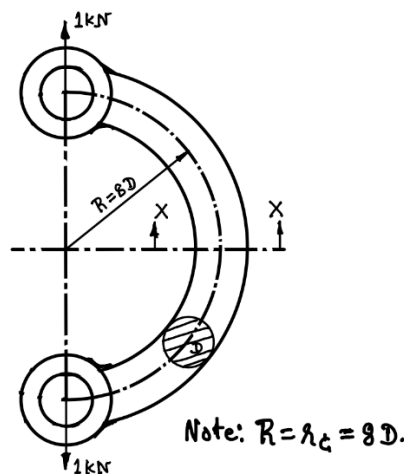

Figure 1b
- b) Determine the diameter D of a curved beam as shown in Figure 1b below. Assume yield stress of the beam material as 300 MPa and the factor of safety for the beam as 3. **10**